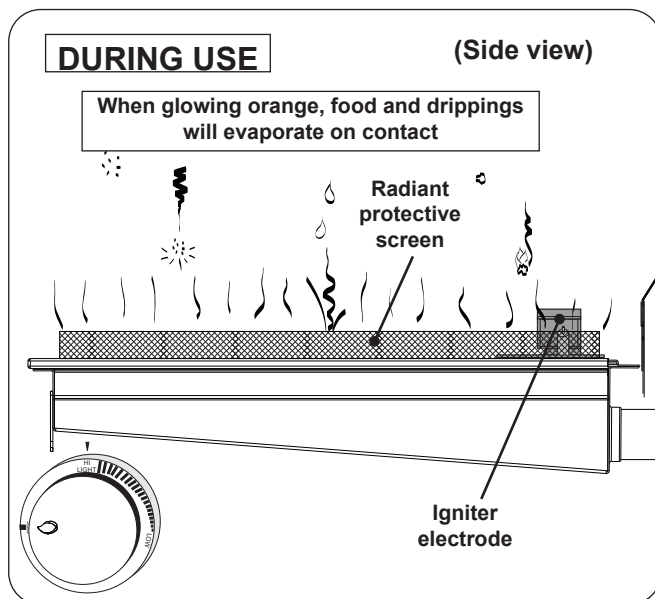

Fig. 38-3 Infrared burner - DURING USE
- **DO NOT place food on the cooking grid until the infrared burner glows orange (Fig. 38-3).** Drippings are heated and evaporate instead of sticking to and impairing burner function.